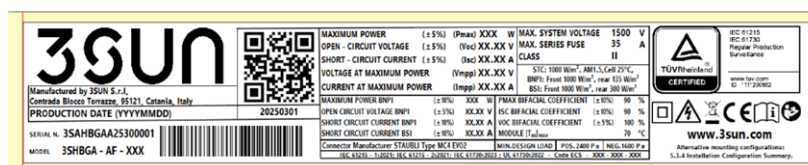

Figure 6: example of module power label
3. Power label: placed on the rear of the module in proximity to the junction boxes, containing the production date and location, the product serial number, the barcode, a QR code, the current class, the product code, the nominal power, current and voltage, the open circuit voltage, the short circuit current the maximum system voltage and the main certificates (Figure 6).